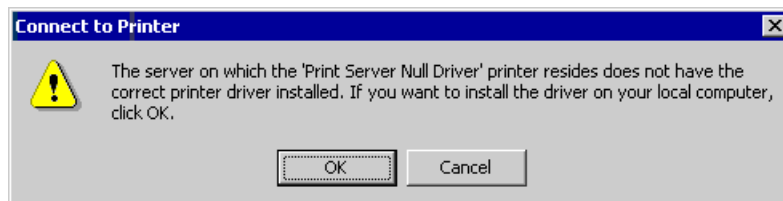

Figure 2: Windows 2000 Message
4. Enter the desired name for the *Printer Agent (PA) Name*.
6. Select *Novell Printer Gateway* in the *Gateway Type*. (see figure2 above)